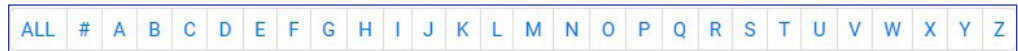

Figure 17. Software Installation
4. Scroll down to the alphabetic navigation bar (see figure 17).